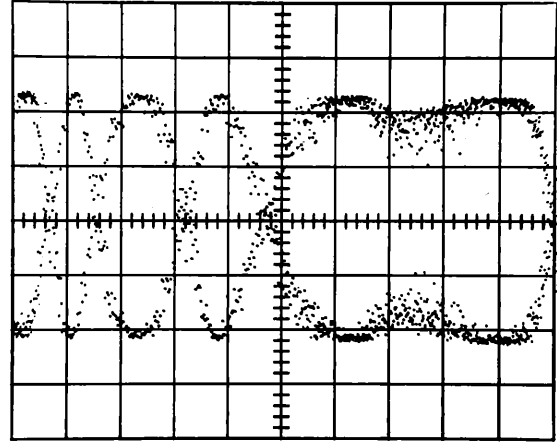

Fig. 6-5. Typical display with C158 properly adjusted.
15. Adjust C158 (Fig. 6-1) for two lines of dots. (Note: This step is quite critical and will require careful adjustment of C158.) Fig. 6-5 shows a typical display when C158 is properly adjusted.